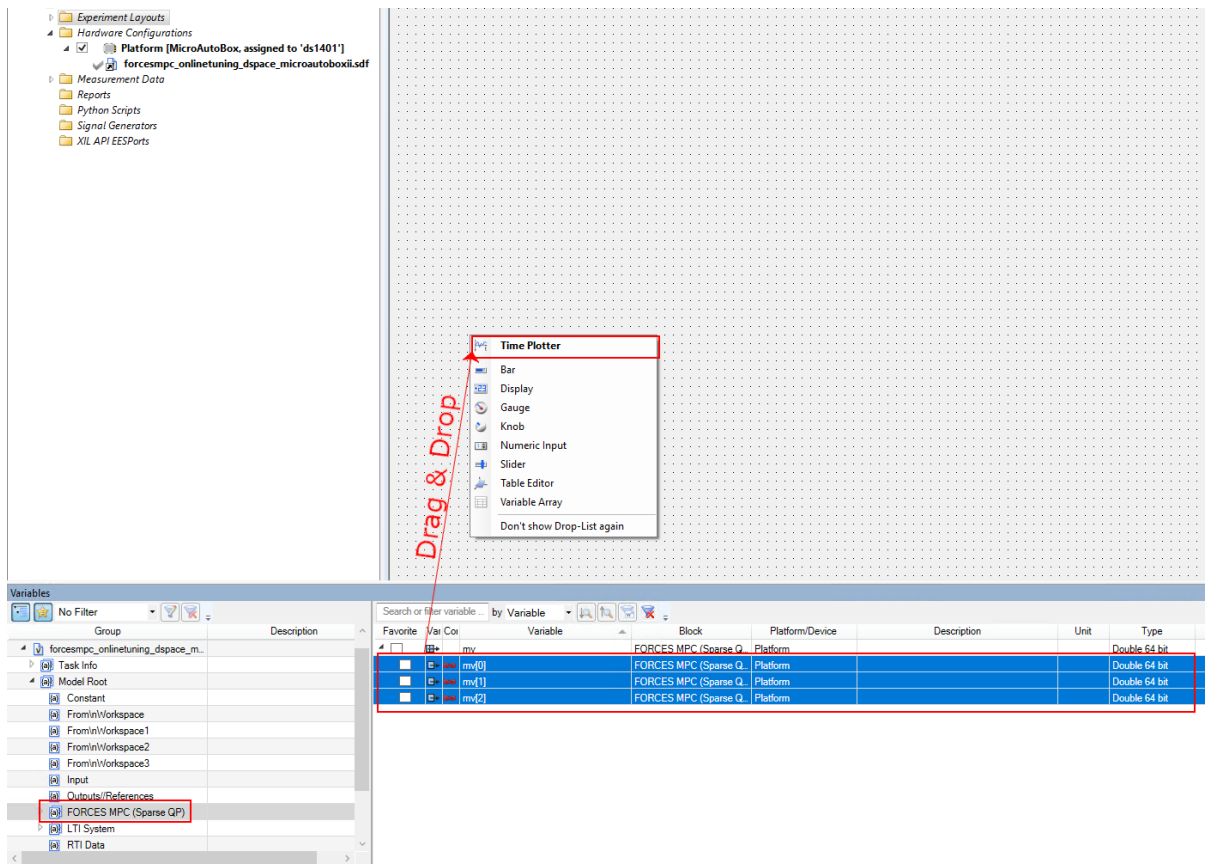

Figure 5.16: Add the variables as plots
- 12) Select FORCES MPC (Sparse QP) and Drag & Drop all the output variables together to the Layout. In the opened menu select Time Plotter (see Figure 5.16).